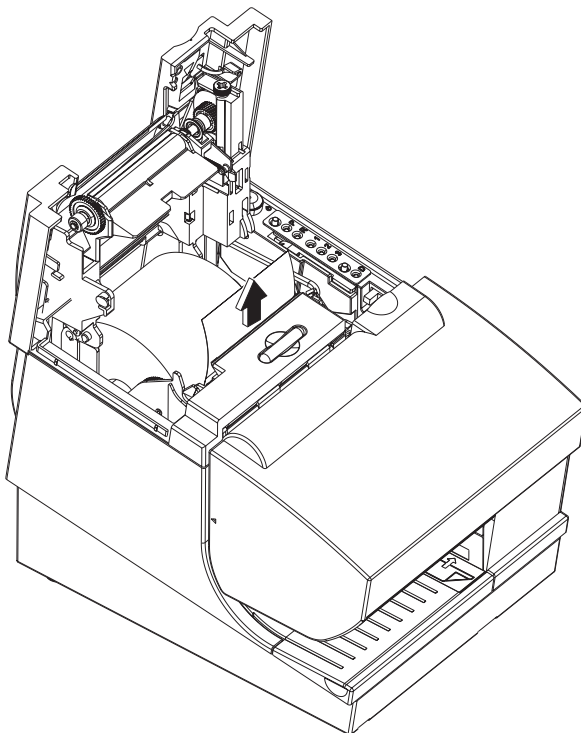

Figure 14. Paper roll placement
3. See Figure 14 and place the paper roll into the paper roll bucket as shown. The leading edge of the paper should come from the bottom of the roll as shown in the diagram.